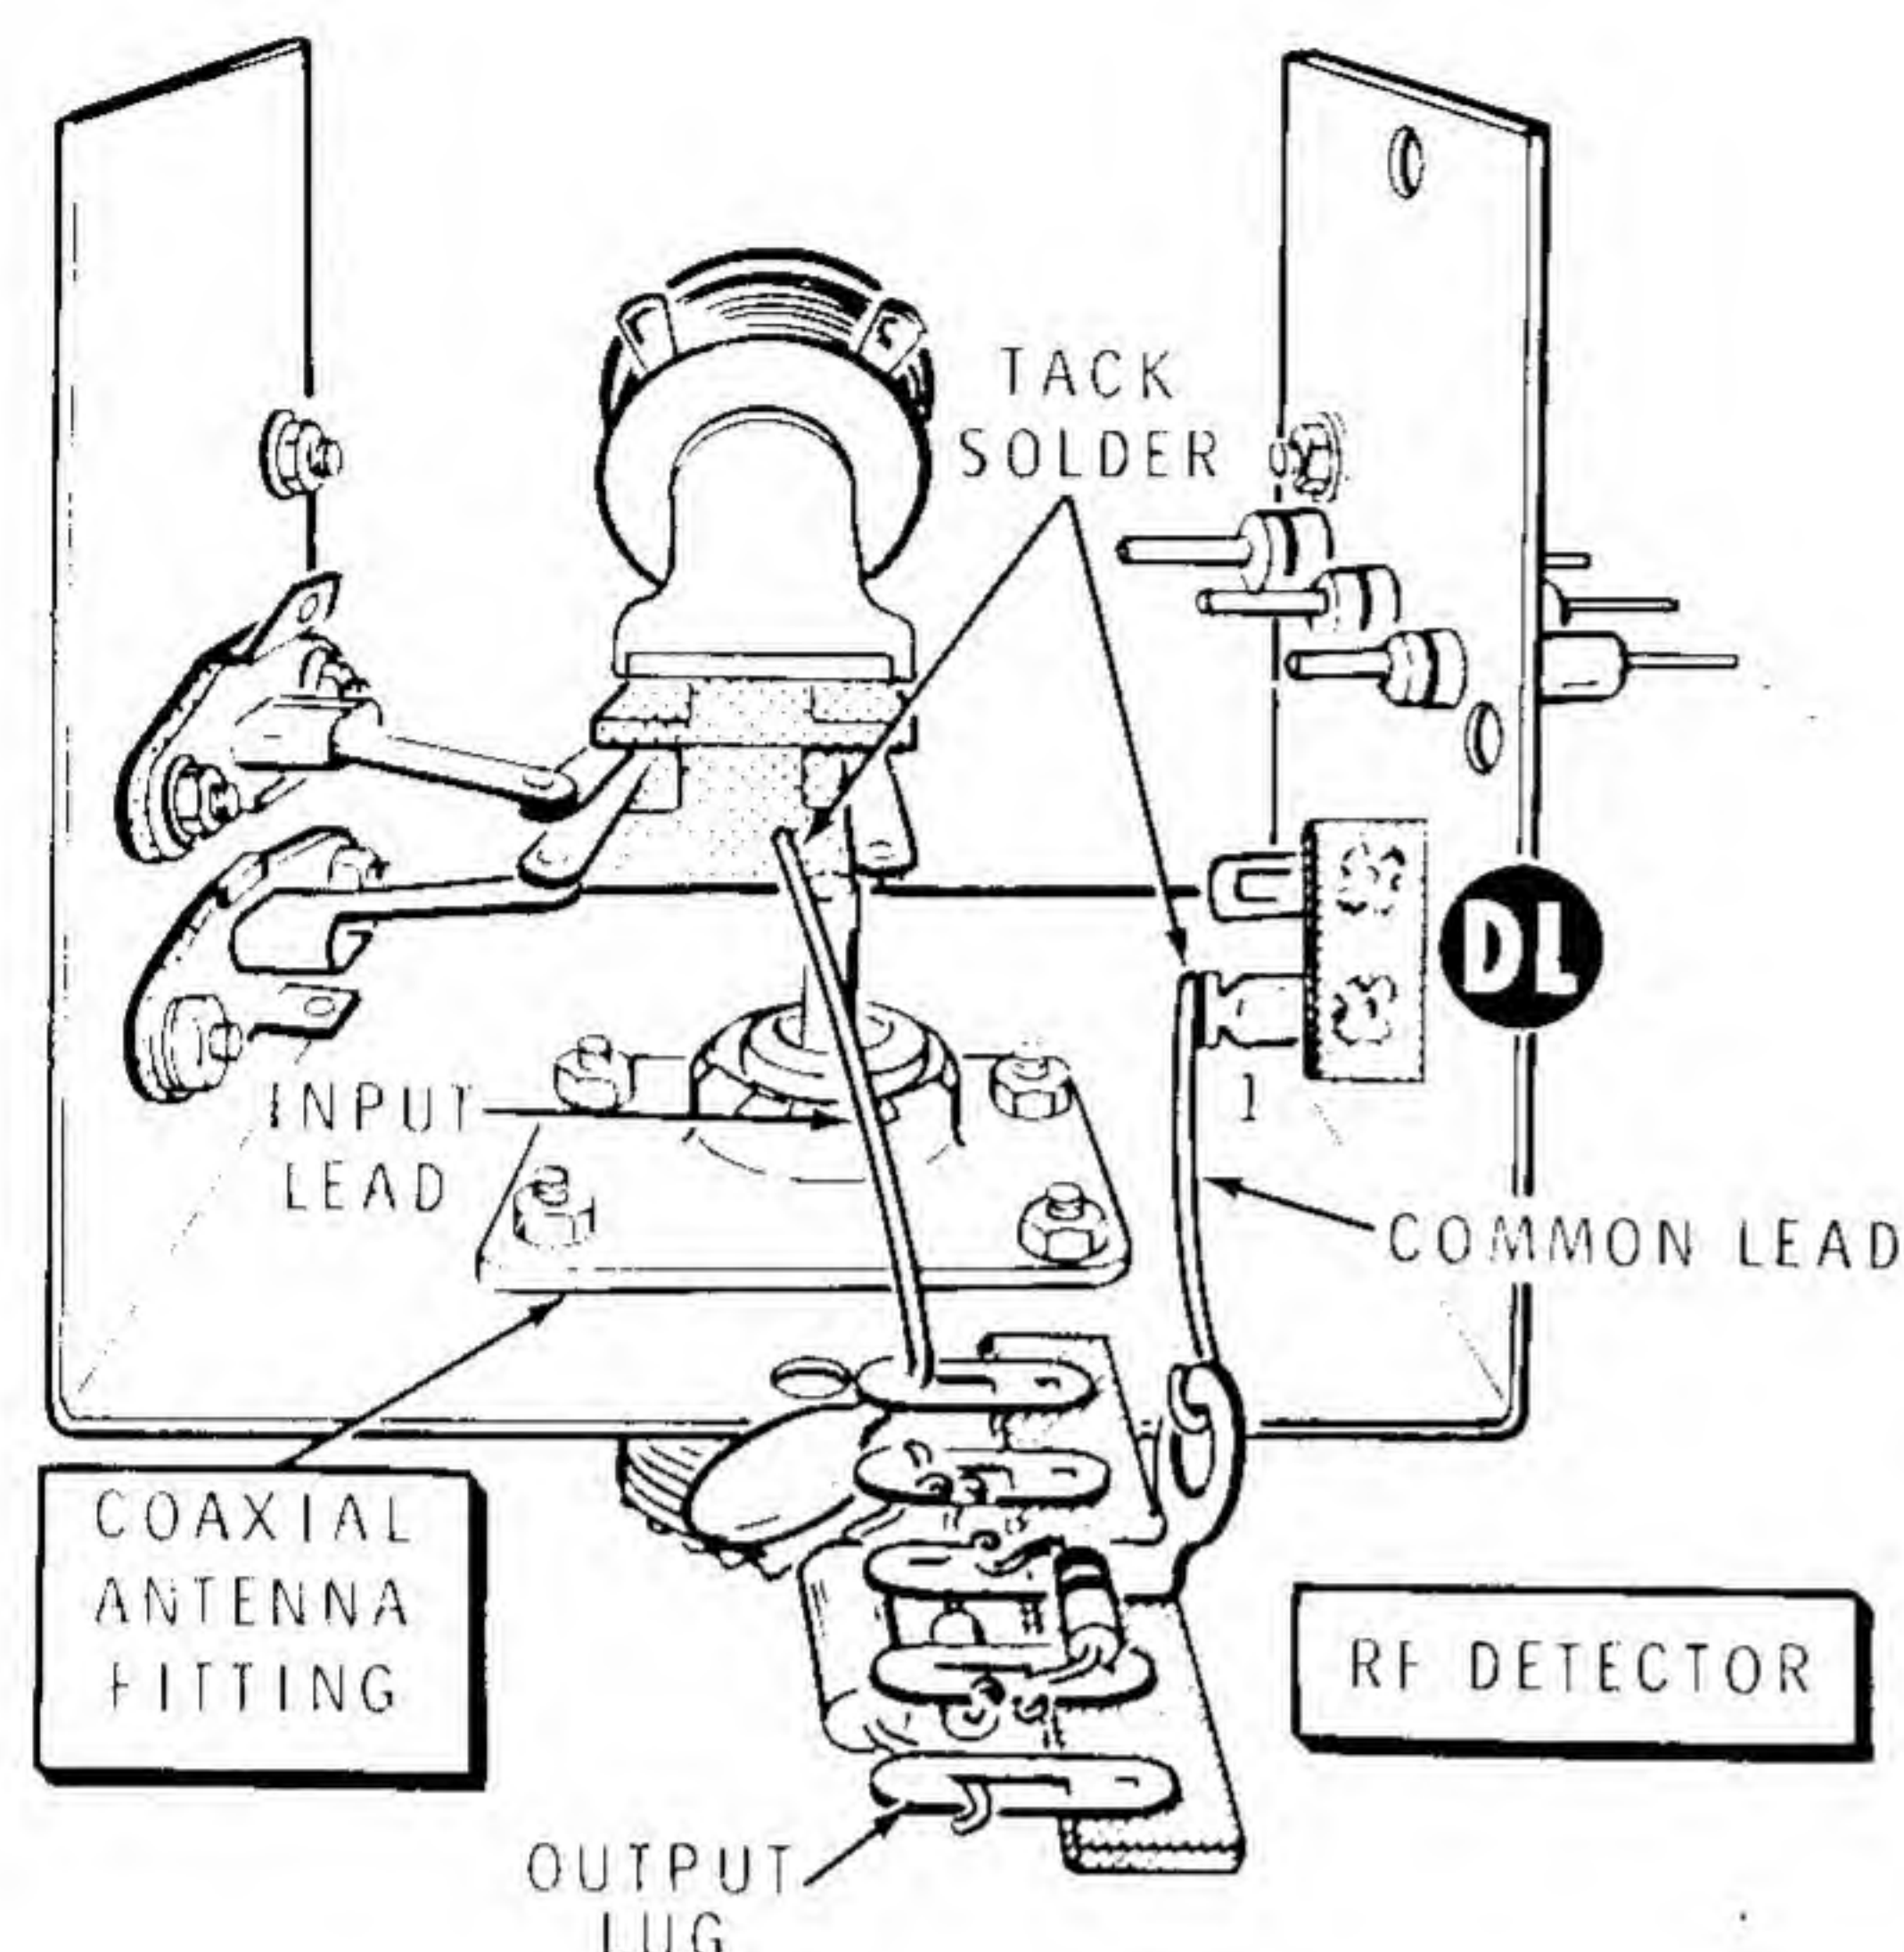

Figure 8-3
- () Refer to Figure 8-3 and tack solder the input lead of the RF detector to the center conductor pin of the coaxial antenna fitting. Tack solder the common lead to pin 1 of 2-lug terminal strip DL.